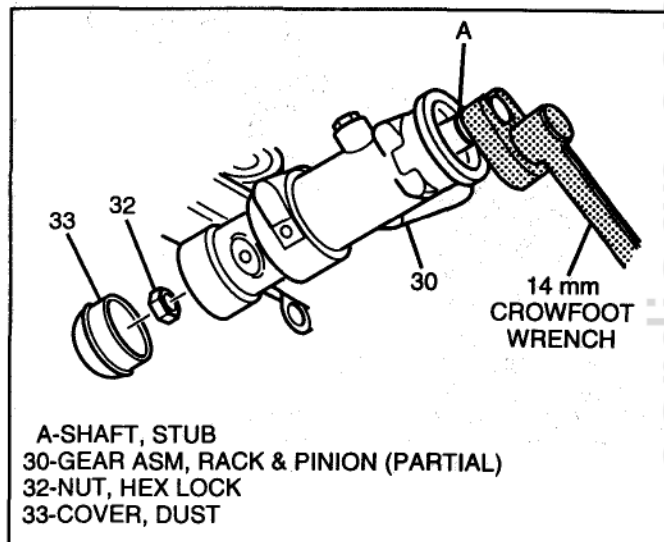

Figure 11 Retaining Ring and Lock Nut Removal
3. Adjuster plug from gear assembly (30).
5. Retaining ring (17) from valve bore of gear assembly (30).
6. Dust cover (33) from bottom of gear assembly (30) (see Figure 11).
7. Hex lock nut (32) from lower end of pinion and valve assembly, while holding stub shaft with 14 mm Crowfoot Wrench (see Figure 11).